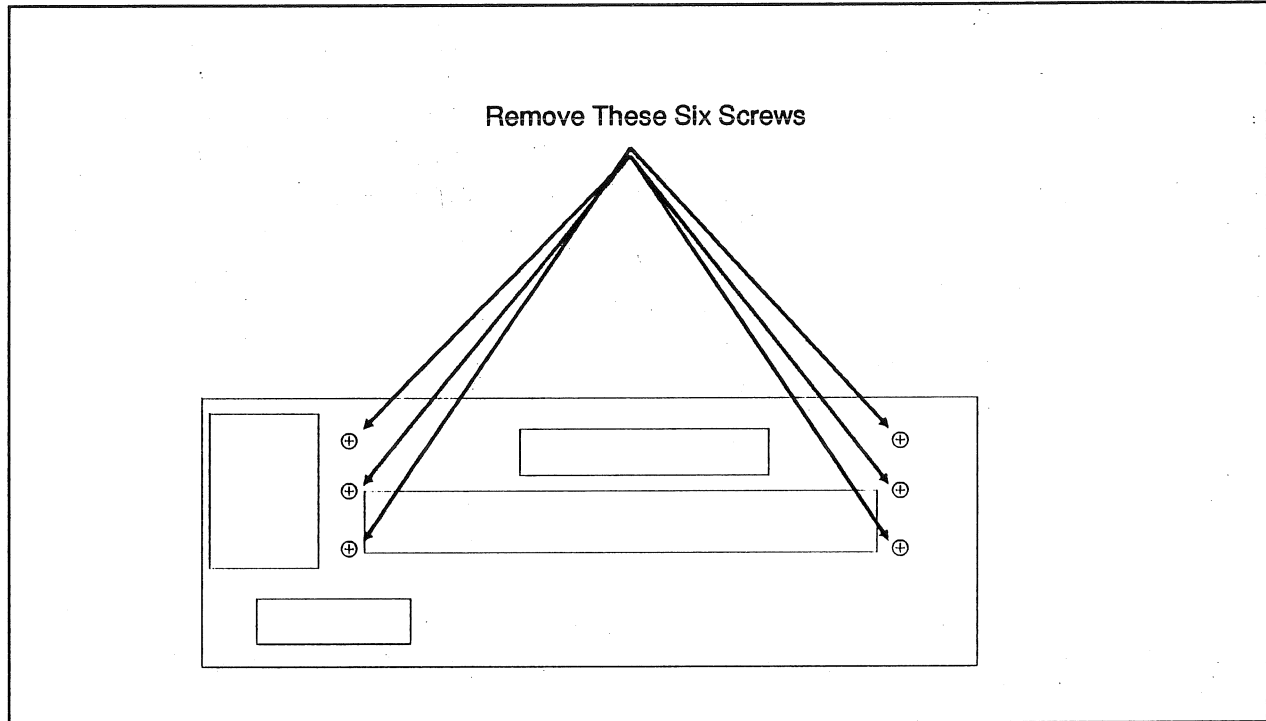

Figure 3-8. Removing the Rear Panel Screws
- 8** Remove the six screws from the rear panel. See Figure 3-8.